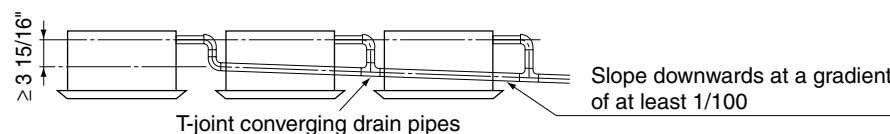

Fig. 23
Screw the screws on the metal clamp bracket until there is 5/32 in. left. (Pay attention to the direction of the attachment to prevent the metal clamp bracket from coming into contact with the suction grille.) **(Refer to Fig. 23)**
- Insulate the metal clamp bracket and drain pipe from the bottom using the large sealing pad (8). (Refer to Fig. 23)
- To ensure no excessive pressure is applied to the drain pipe (1), do not bend or twist when installing. (This may cause leakage.)